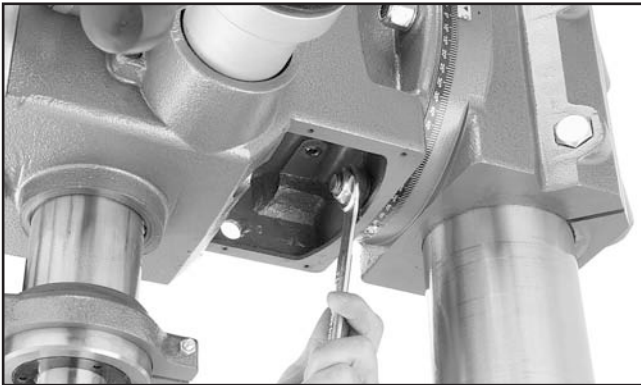

Figure 40. Loosening lock nut inside headstock.
7. Use a 24mm wrench to loosen the locking nut inside the headstock, shown in **Figure 40**.
9. Tighten the nut shown in **Figure 40**, then reinstall the gearing cover.
1. Remove the gearing cover, loosen the locking nut shown in **Figure 40**, then loosen the two retaining nuts on either side of the headstock.